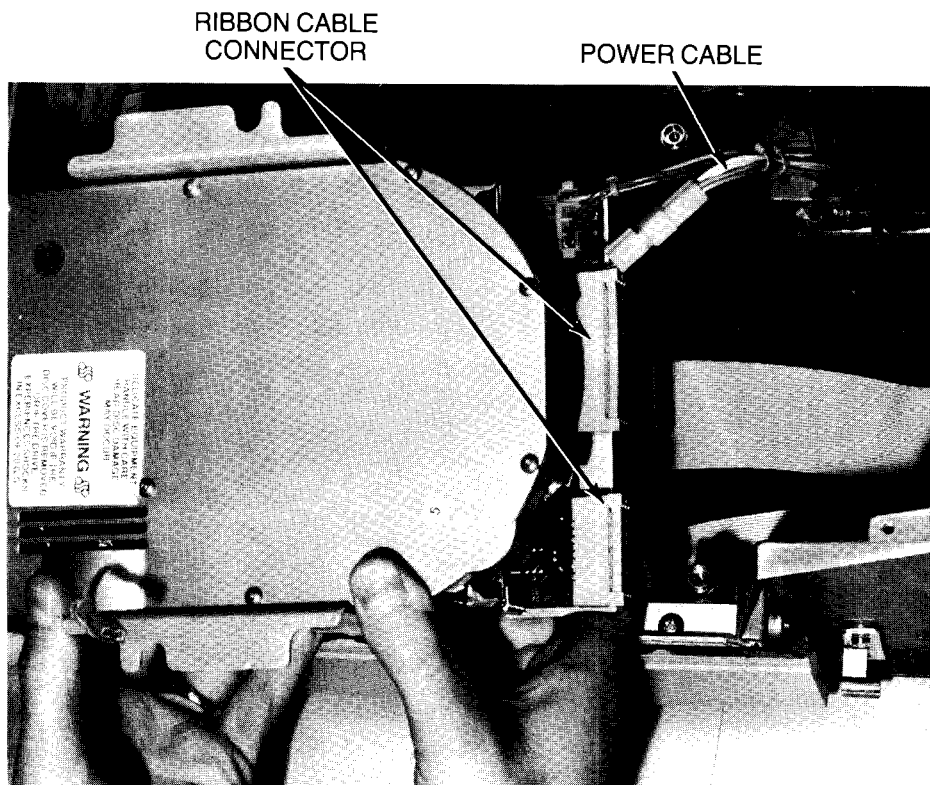

Figure 4-54. Removing Fixed Disc Drive
4. Lift disc drive, disconnect power cable from motherboard and both ribbon cables from drive (Figure 4-54), and remove drive from computer.